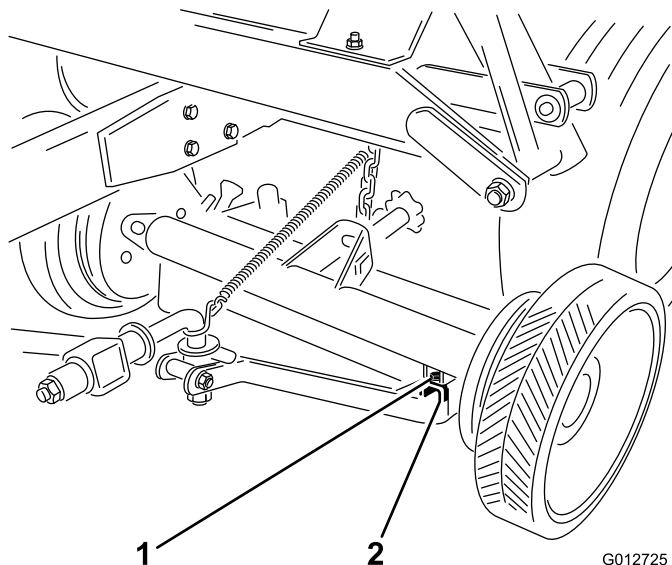

Figure 11
1. Align the holes in the drawbar with the brackets on the mower cross-tubes. Secure each side with a bolt (1/2 x 3-1/2 inch), spacer tube, and locknut (1/2 inch) (Figure 11).